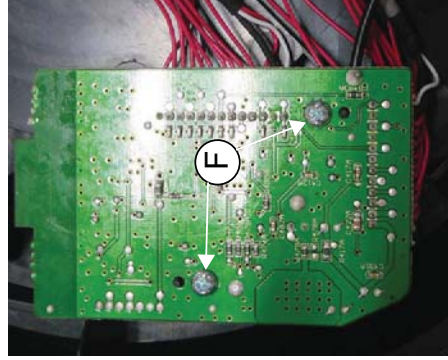

Figure 5
- 1) Loosen 2\*2 screws "F" on both side A & B as shown in figure 5.